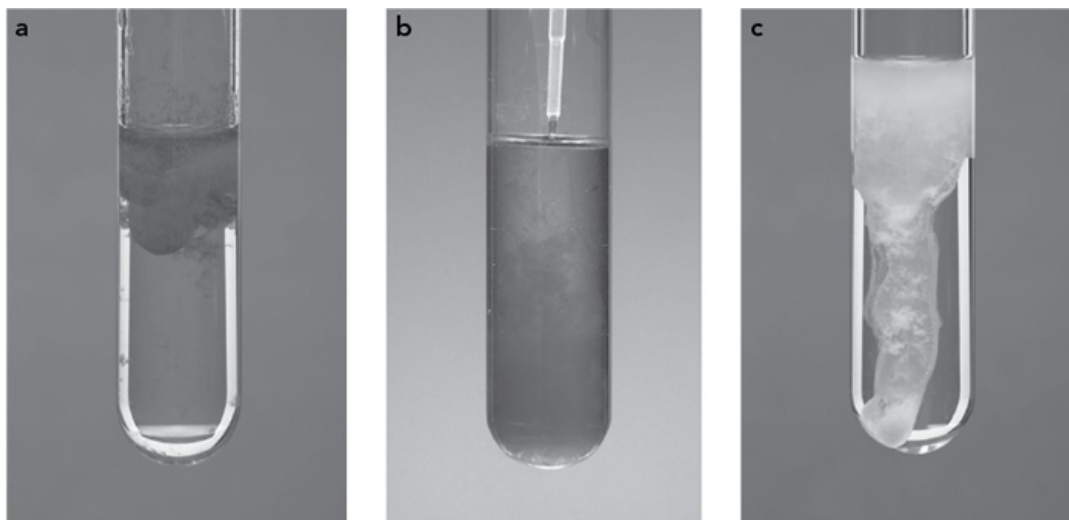

Figure 4.1: Adding NaOH(aq) to **a** Fe²⁺(aq), **b** Fe³⁺(aq) and **c** Zn²⁺(aq)
You have already studied **displacement** reactions involving metals and metal salts. See Figure 4.1 for a reminder of the effects of adding sodium hydroxide to **a** a solution of iron(II) ions, **b** a solution of iron(III) ions and **c** a solution of zinc ions (initially you will note there is a white precipitate of zinc hydroxide and then when **excess** sodium hydroxide is added the precipitate dissolves).